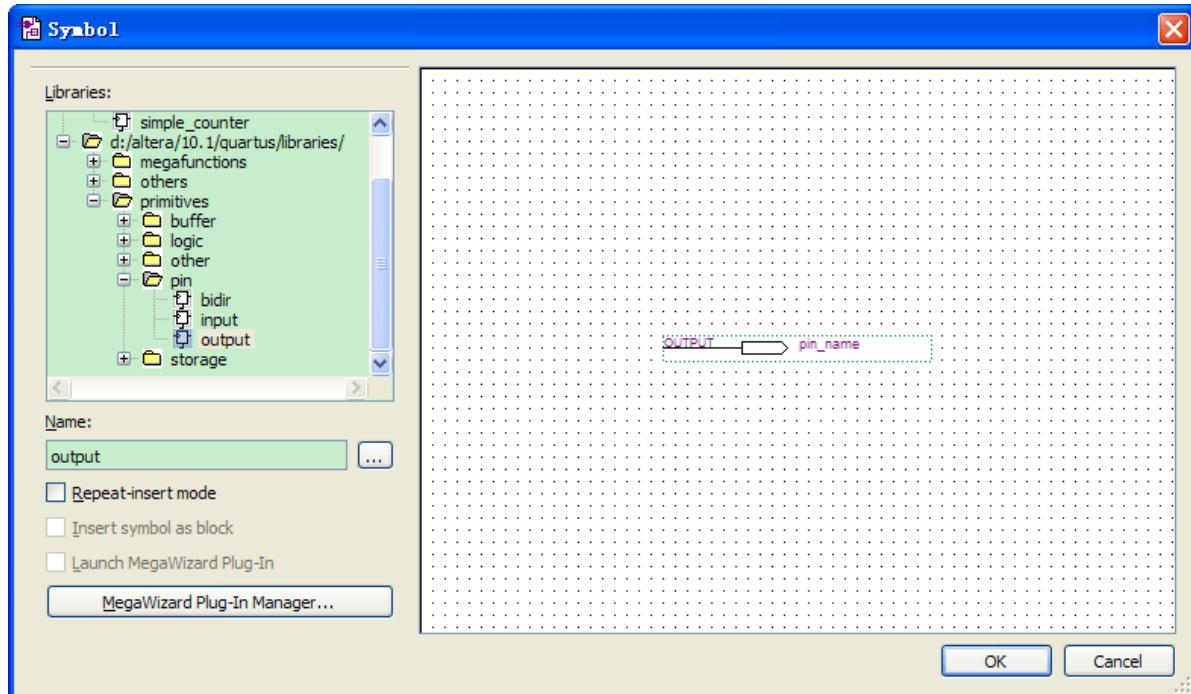

Figure 6-38 Choose output pin
17. Under Libraries, select quartus/libraries > primitives > pin >output, as shown in **Figure 6-38**.